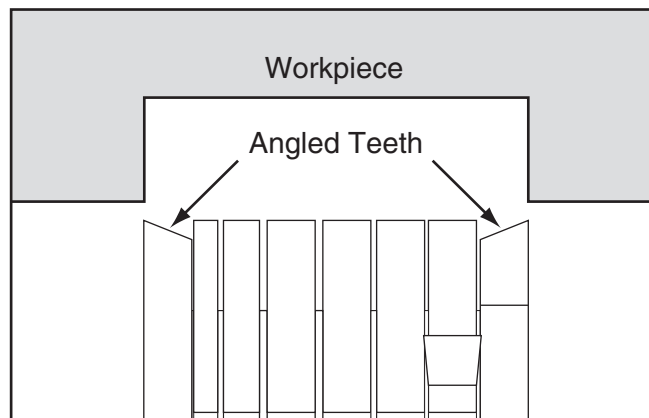

Figure 2. Correct position for outside blades.
- Slide the right outside blade over the arbor with the teeth facing toward the operator and the point of the angled teeth on the outside of the dado stack as shown in **Figure 2**.